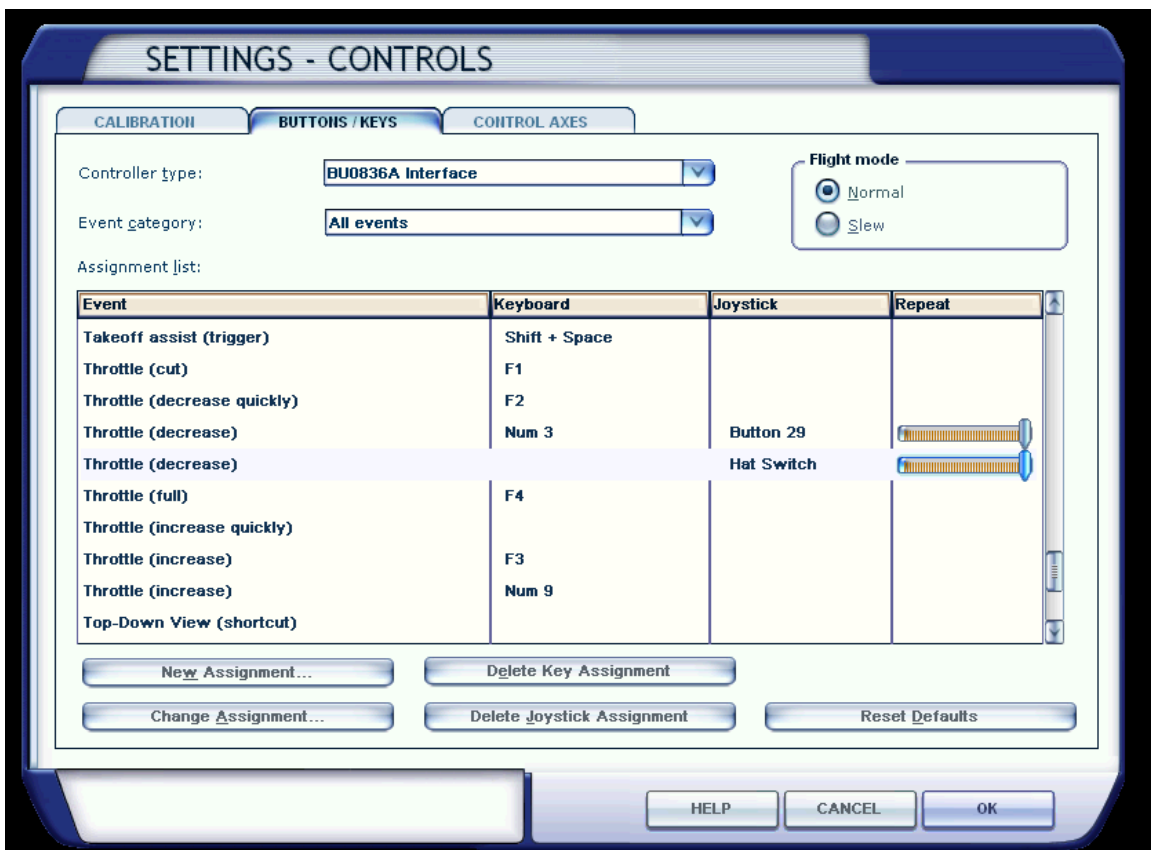

Figure 1.3 Thrust Reversers
8. We are almost done, next we need to assign the fuel cutoff switch and the thrust reverse levers. You will need to go to the “buttons/keys” tab at the top and scroll down to the “throttle decrease” command there are two of these commands and you will need to assign the first one as the left throttle and the second one as the right throttle. Simply double click on axes assignment and pull the appropriate lever. Make sure the “repeat” tab is at it’s fullest setting to ensure the thrust reverse deploys properly. For an example refer to figure 1.3.